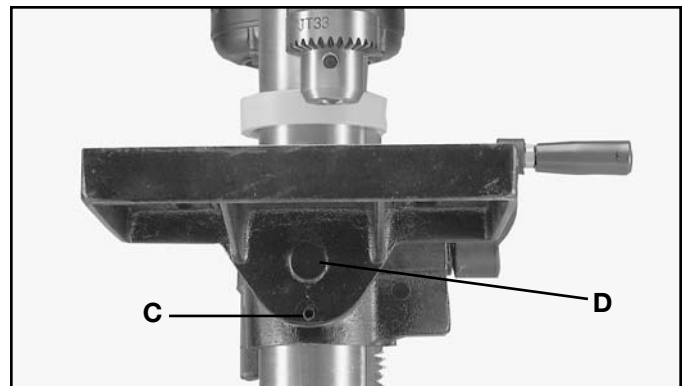
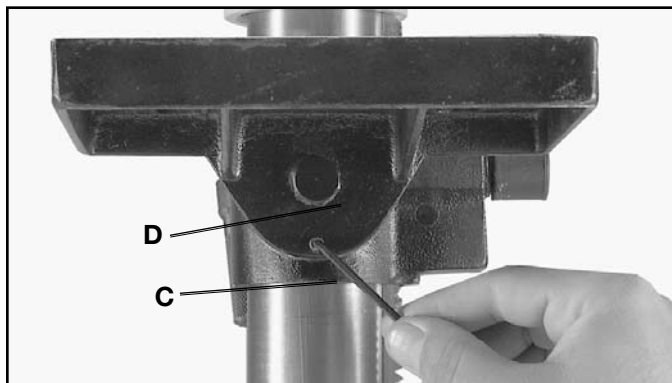

Fig. 29
Fig. 30
3. The table can be tilted right or left by pulling out and removing table alignment pin (C) Fig. 29, and loosening table locking bolt (D). **NOTE:** If pin (C) is difficult to remove, turn nut (E) clockwise to pull pin out of casting. Tilt table to the desired angle and tighten bolt (D).
4. When returning table to the level position, loosen set screw (C) Fig. 30, and loosen locking bolt (D). Position the table to the 0 degree mark on the tilt scale and then tighten the set screw (C) and locking bolt (D) Fig. 29.